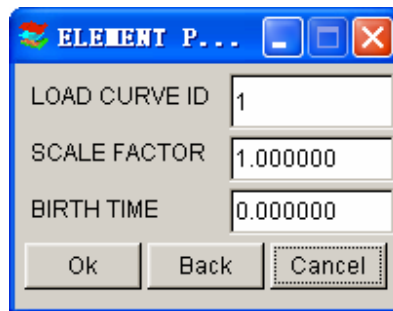

Figure 5.7.4 Define Element Pressure
- Define element pressure. See Figure 5.7.4.
- Select OK in Figure 5.7.4 to select the element to load.
- Select CANCEL in Figure 5.7.4 to exit.